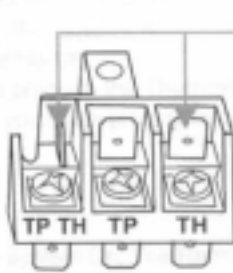

Figure 1
- 2 Connect the wires labeled "Main Valve" to the TH and THTP terminals of the Millivolt valve. see Figure 1.